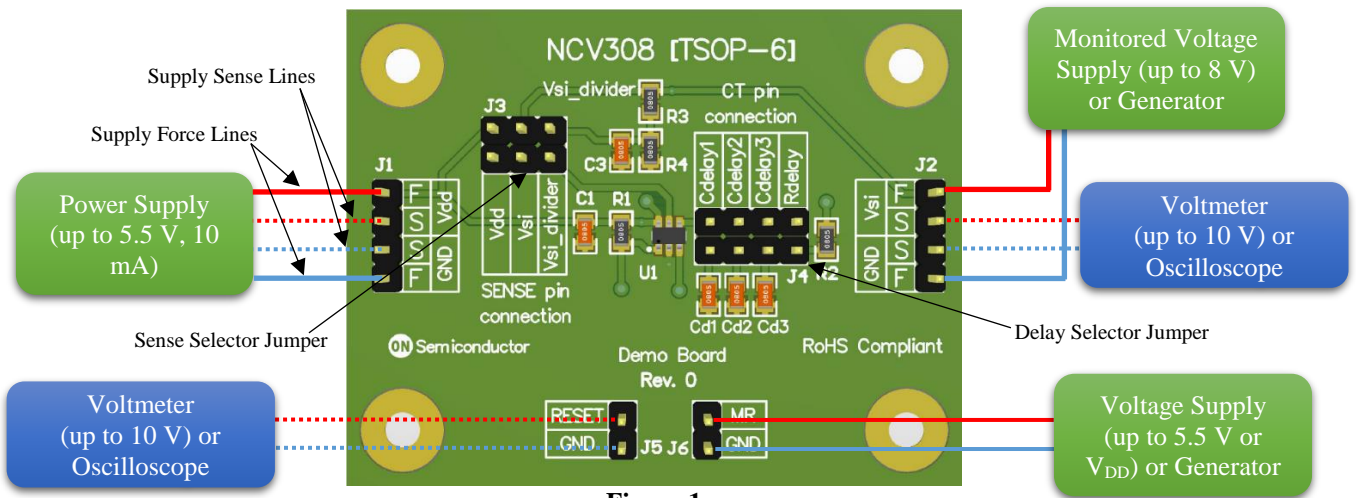

Figure 1
1. Connect the test setup as shown in Figure 1.